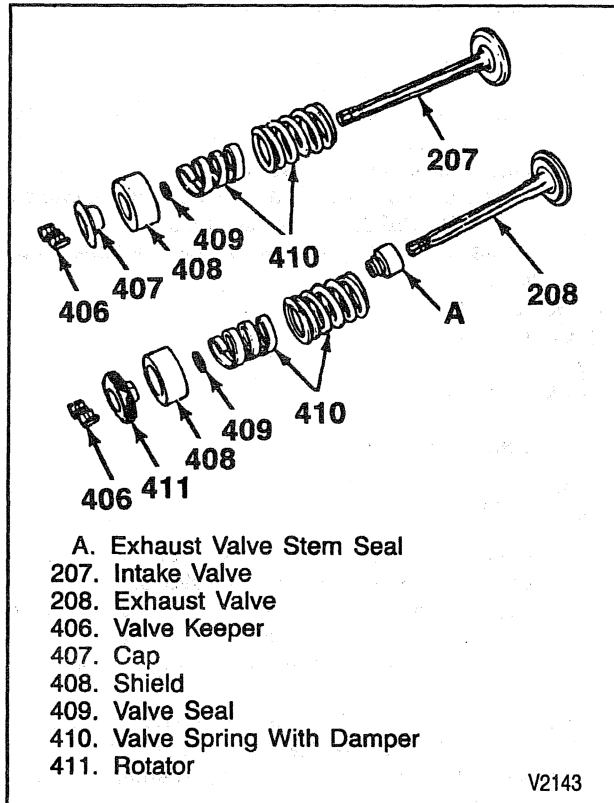

Figure 16—Valves and Components
**Remove or Disconnect (Figures 16 and 17)**
## Install or Connect (Figures 16 and 17)